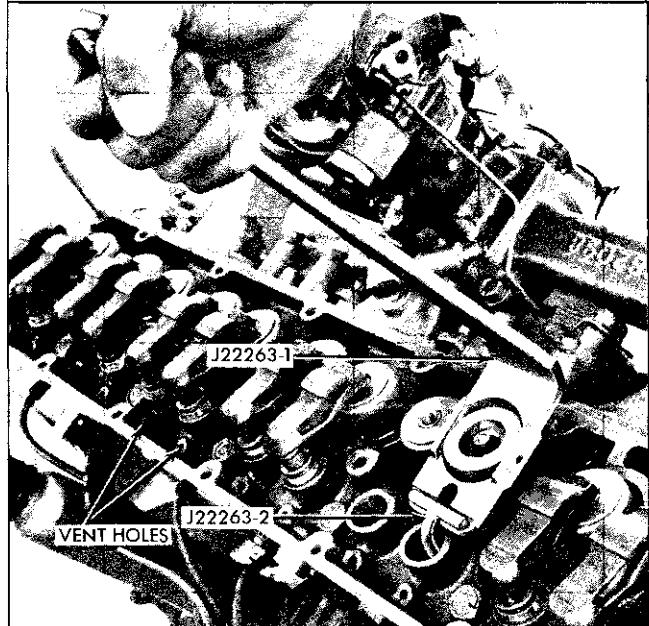

Fig. 6-24 Valve Spring Removal
2. Fill the vent hole adjacent to the lifter with engine oil (see Fig. 6-24).
6. Hold J 22263-2 in place and install fork end of compressor J 22263-1 on J 22263-2 (Fig. 6-24).